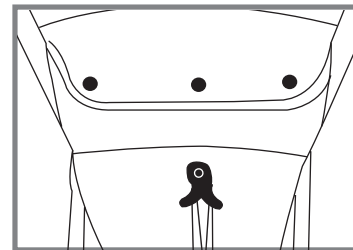

Fig. 8B
15. Snap the three back buttons located on the back of the seat, as shown in Fig. 8B.